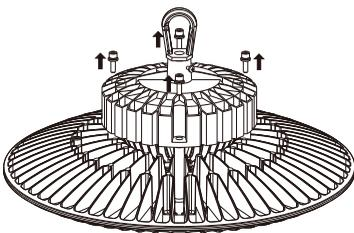
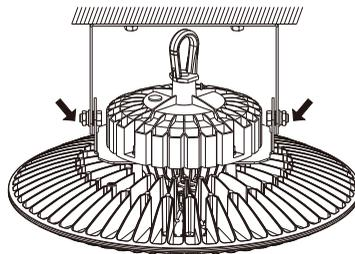

Fig. 4
Fig. 7
1. Remove the driver bolts. (**Figure 4**).
4. Adjust the angle of the bracket. This can be done by loosening the side bolts shown in figure 4, then retightening at the desired angle. (**Figure 7**).